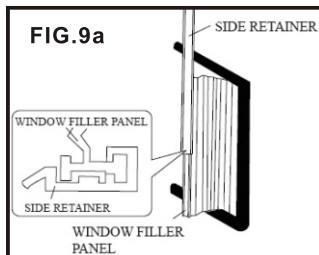

FIG.9a
4. Slide the "I" section of the window panel into the side bracket of the cabinet (FIG.9a). Do this for both sides